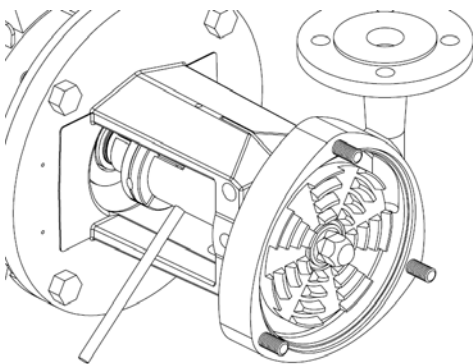

Figure 17
7. Once again insert a 3/8" bar into the hole of the stub shaft to hold the rotating parts while tightening the impeller nut. See figure 17.